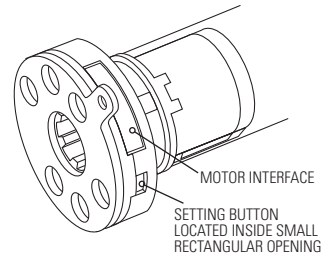

Figure 3: Wand Motor Head
- Use a pencil eraser to push firmly on the wand plug and ensure that it is fully seated in the motor interface. **[Figure 3]**
2. If after re-charging the battery the shade still won't operate, check the motor. Use an opened paperclip to press the setting button on the motor crown **[Figure 3]**
- 1. Press & hold the Setting Button [Figure 3]** on the motor crown until the shade jogs 3 times. This removes all programming. **NOTE:** There is a longer pause between the 2nd and 3rd jogs.
If for some reason the shade direction is reversed, press & hold the Setting Button **[Figure 3]** on the motor crown until the shade jogs 2 times.